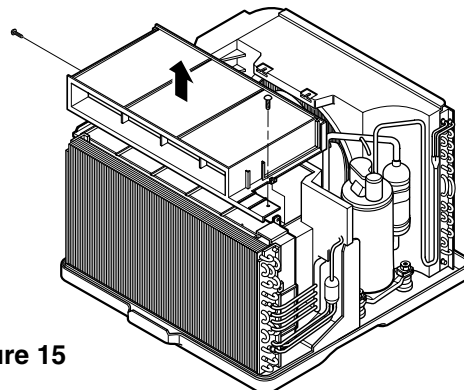

Figure 15
7. Re-install the components by referring to notes. (See Figure 15)